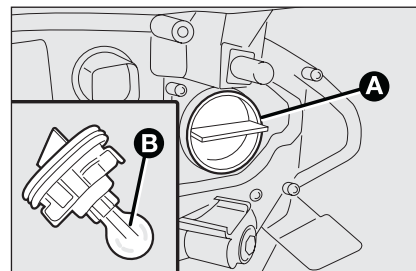

fig. 23
- ☐ remove the bulb **B-fig. 23** and replace it;